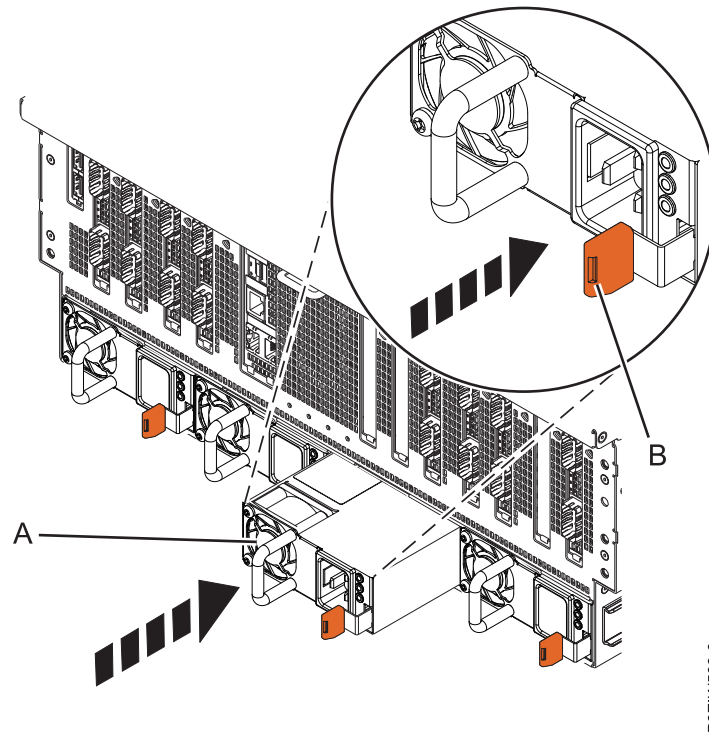

Figure 16. Replacing a power supply in the system
3. Align the power supply **(A)** with the bay and slide the power supply into the system until the terracotta latch **(B)** locks in place, as shown in Figure 16 on page 16.